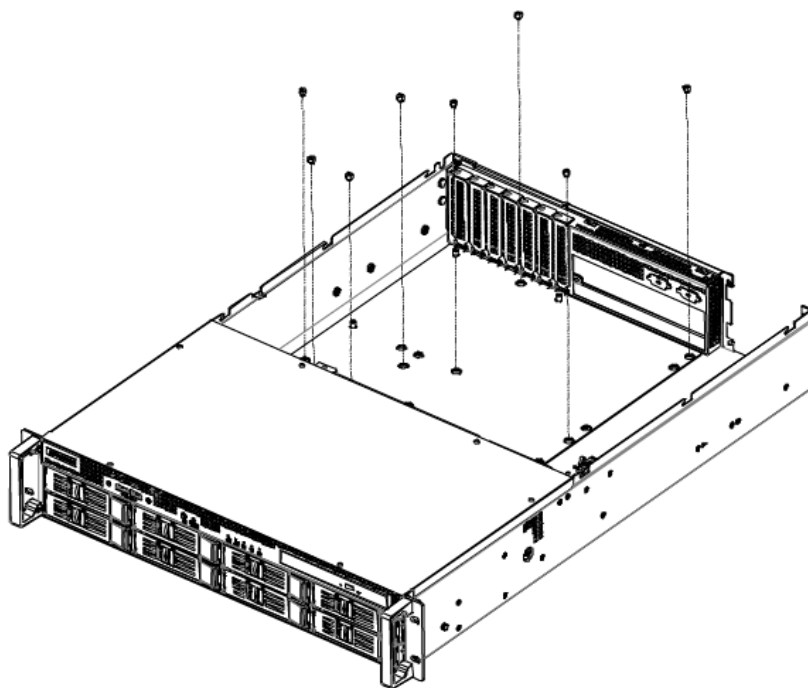

Figure 2.3 Fastening the copper stub/ 固定铜柱 / 固定銅柱
1. The below table (see Figure 2.2) shows the plastic posts where a copper stub should be attached to install an EATX/ATX motherboard. The copper stub is provided in the accessory box (see Figure 2.3). Affix the copper stub in the correct location and then rotate it counterclockwise to fasten it to the chassis.
1. 下方表格（如图 2.2 所示）标示了用于安装特定 EATX/ATX 主板的铜柱的位置。用户可以在附件盒里找到铜柱（如图 2.3 所示）。将铜柱锁入相应的位置，然后沿逆时针方向旋转将它固定在机箱上。